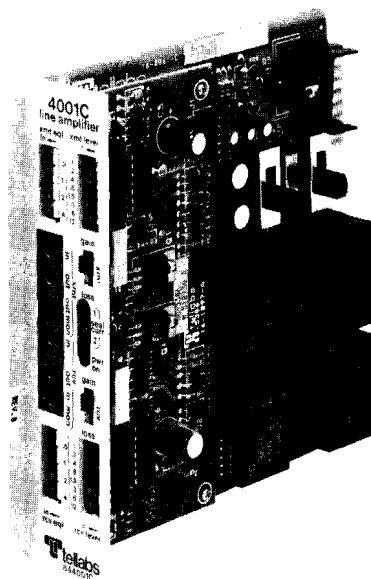

figure 1. 4001C Prescription Line Amplifier
1.01 The 4001C Prescription Line Amplifier module (figure 1) provides active prescription level control, active prescription amplitude equalization, and impedance matching for the transmit and receive channels of a 4wire voice-frequency transmission facility. The 4001C also contains two independent sealing-current sources, one on the facility side and the other on the terminal side of the module.